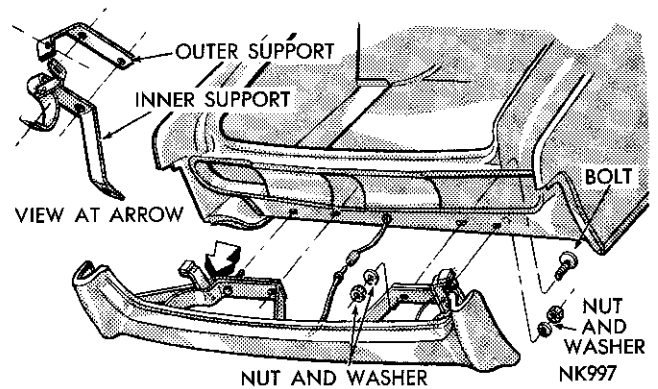

Fig. 2—Rear Bumper (Chrysler)
- (1) Remove the bumper stabilizer to the quarter panel mounting bolts (Figs. 2 and 3).